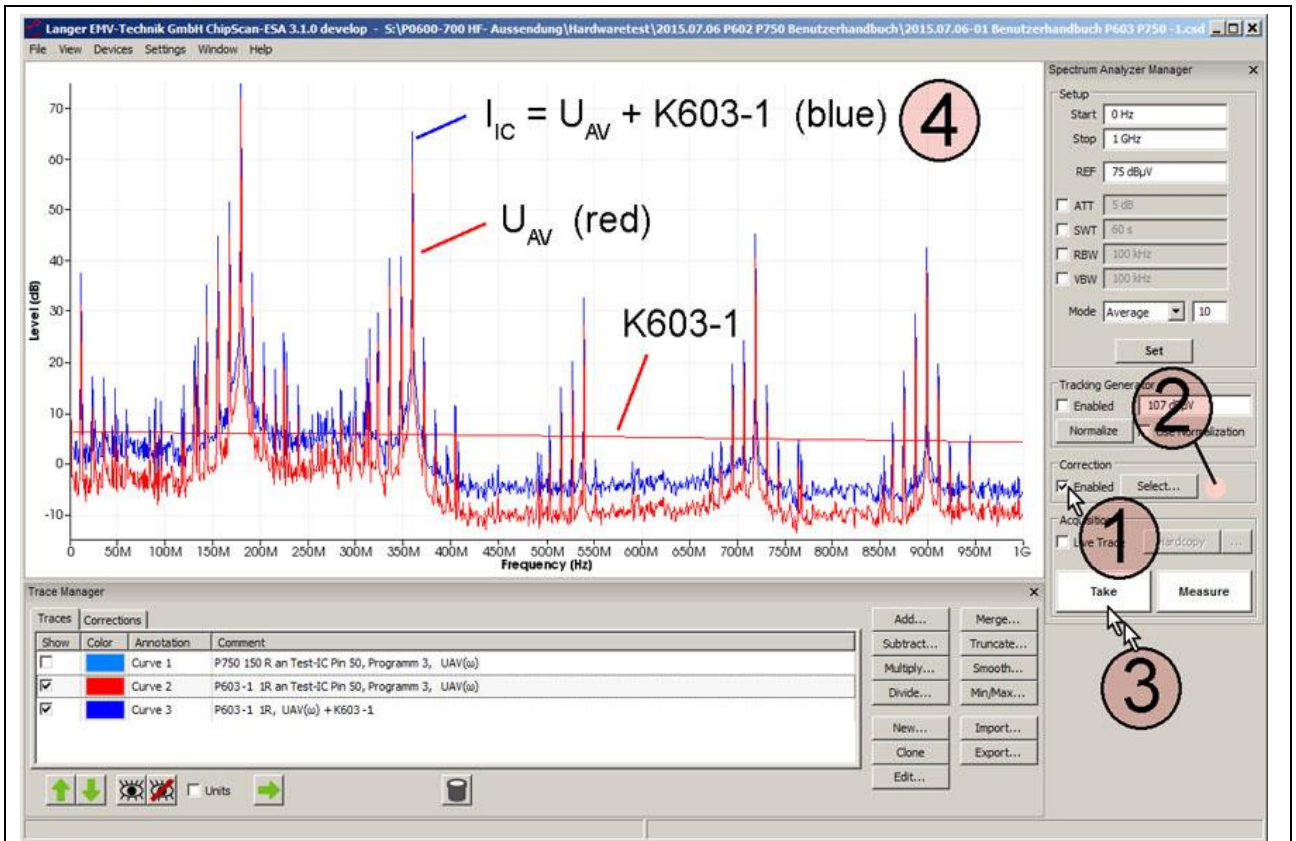

Figure 30: Measurement with the P603-1 RF current probe head using the correction curve K603-1.
The correction curve K603-1 is loaded to the Corrections Selector if the **P603-1** probe is used for the measurement. Activate the "Enabled" box in the Correction area of the Spectrum Analyzer Manager with the mouse cursor ① (**Figure 30**). The field ② flashes if the correction is active **Figure 30**. Click "Take" or "Measure" (mouse cursor ③ **Figure 30**) to transfer the current measurement curve ④ $I_{IC}(\omega)$ from the spectrum analyzer to the PC.